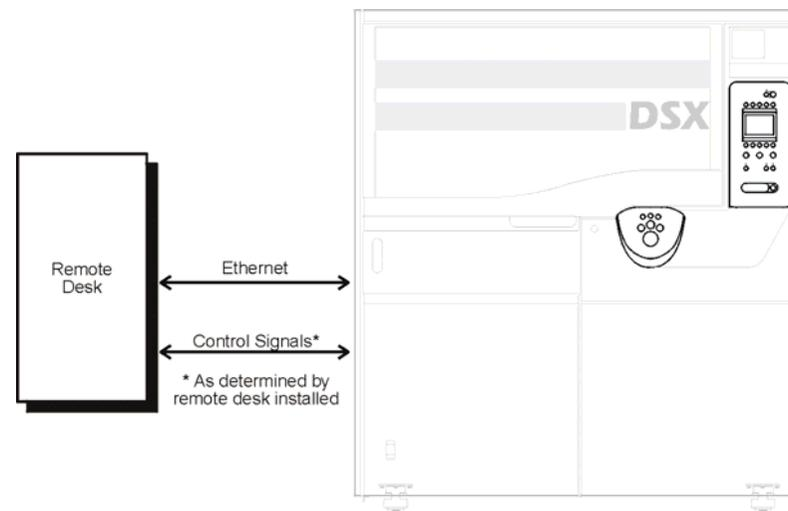

Figure 7 Control System Block Diagram
| Control Block Diagram | Figure 7 |
- Top Level Menu Pre Gamma (Figure 7)